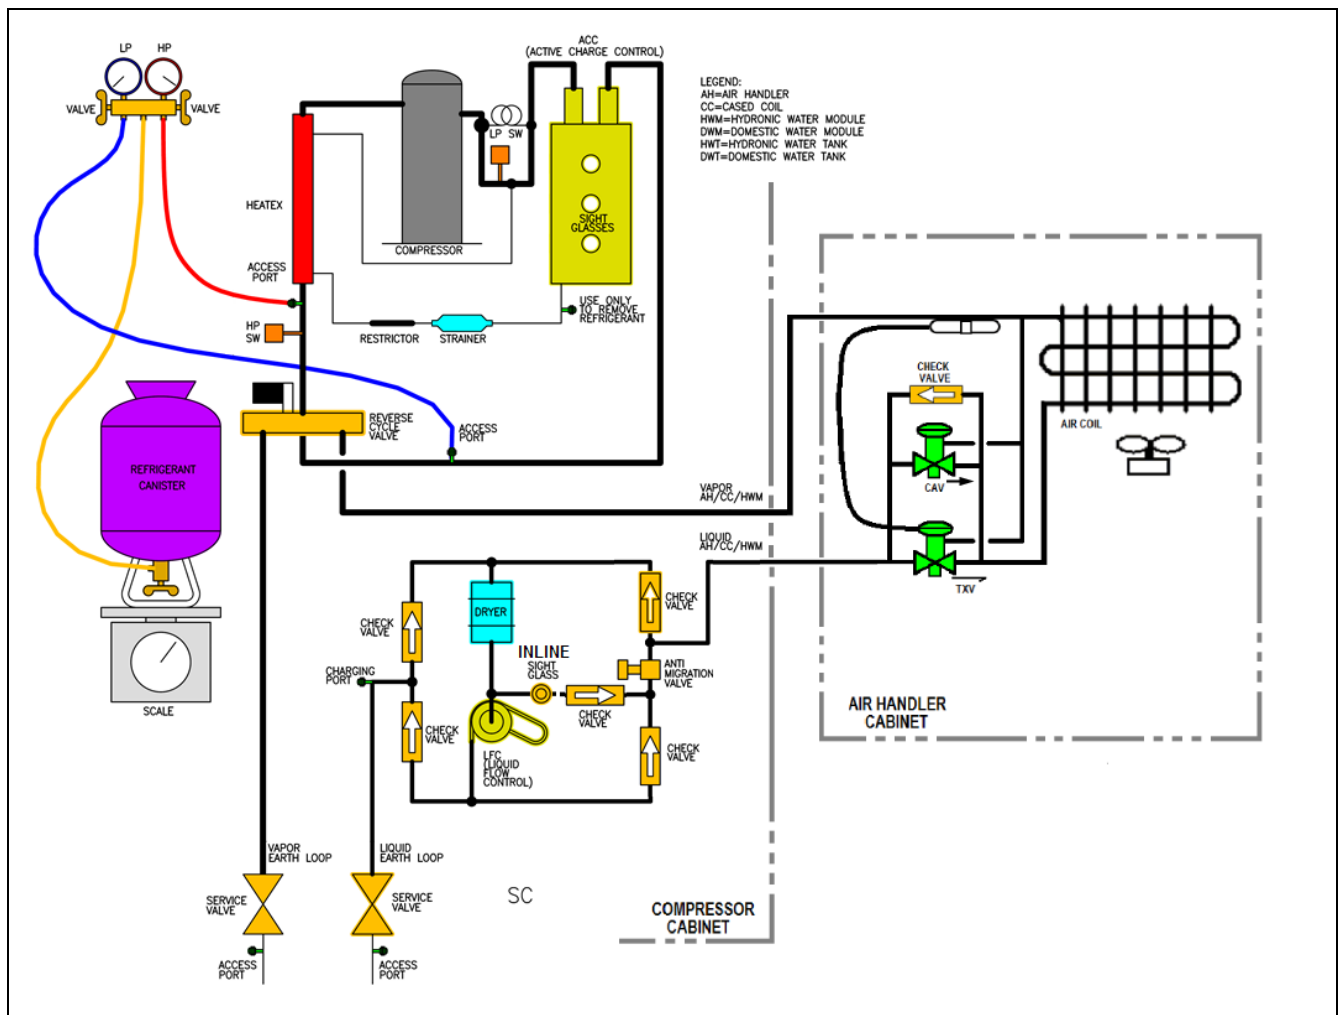

Figure 26. Typical Final Charge Set-up for SC, SD, SCW and SW Compressor Units (SC Model shown).
Final charging is done in the HEAT mode as follows, with the charging set up described in Figure 26:
1. Continue measuring the refrigerant charge weight as shown in Figure 26.
4. Initiate final charging by opening the refrigerant container valve and the gage manifold LP valve to allow liquid refrigerant to enter the system **SLOWLY** as shown in Figure 26. The ACC will not allow liquid refrigerant to enter the compressor.